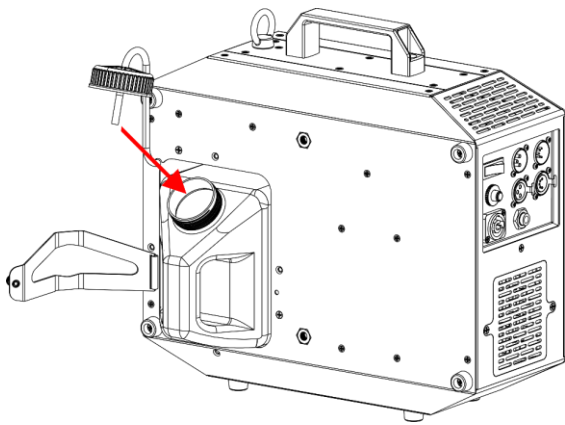

Fig. 22
- 17) Screw the lid back on the fluid tank, as shown in Fig. 22.